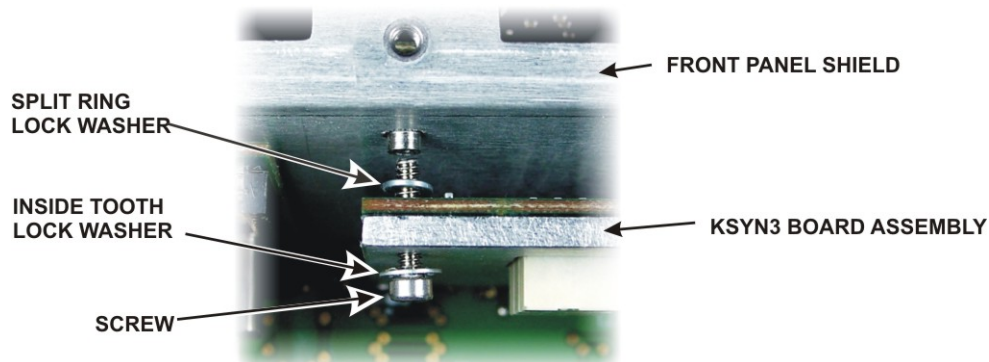

Figure 4. KSYN3 Assembly Mounting Hardware.
□ Replace the KSYN3 board(s) in the K3, ensuring all the pins of the multi-pin connectors mate properly with the connectors on the RF board. Secure the KSYN3 assemblies to the front panel shield with the hardware shown in Figure 4 at each top corner. Note that a split ring lock washer is used between the board and the front panel shield. This washer is required to ensure proper spacing between the KSYN3 board and the shield. If your K3 did not have washers installed here, washers are included with his mod kit. Do not use inside tooth lock washers behind the board. They are large enough to short out to nearby traces and solder pads on the KSYN3 board.